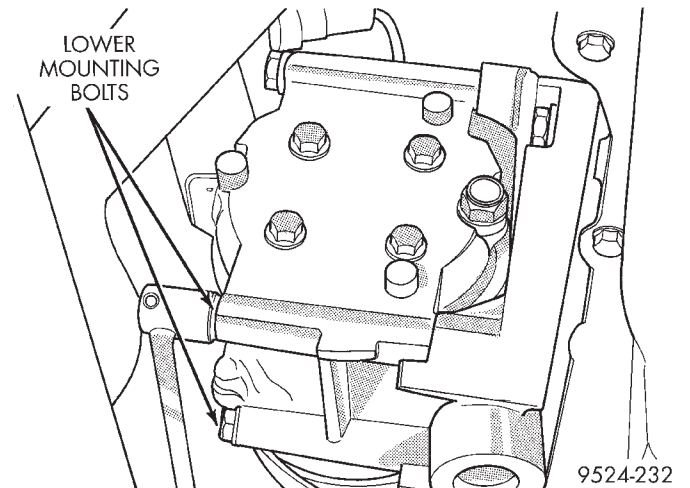
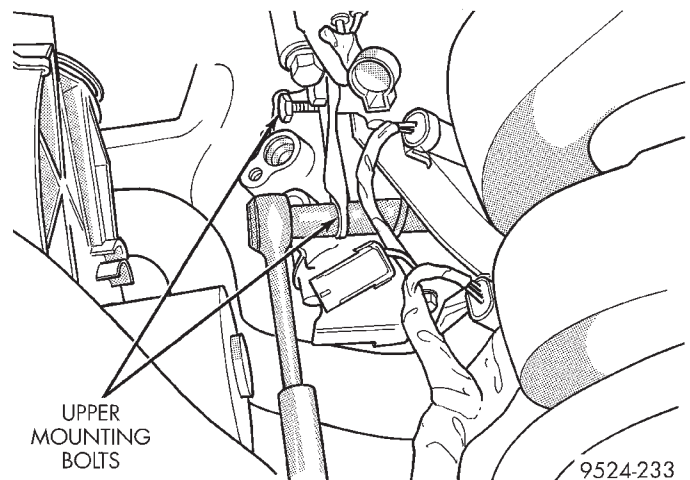

Fig. 18 Lower Attaching Bolts
Fig. 19 Upper Attaching Bolts
- (6) Remove compressor attaching bolts (Fig. 18) and (Fig. 19).